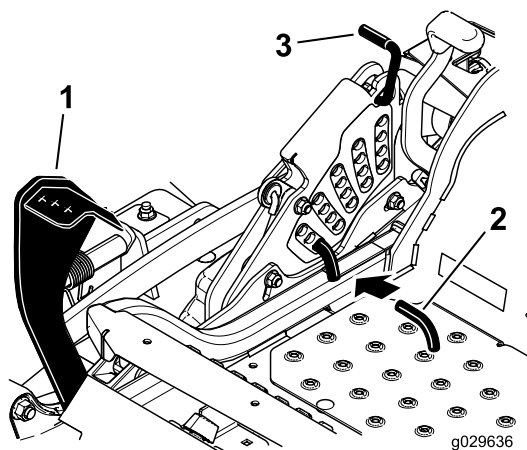

Figure 91
5. Push the deck-lift pedal all the way forward and the deck will latch at the 14 cm (5–1/2 inch) TRANSPORT position (Figure 91).